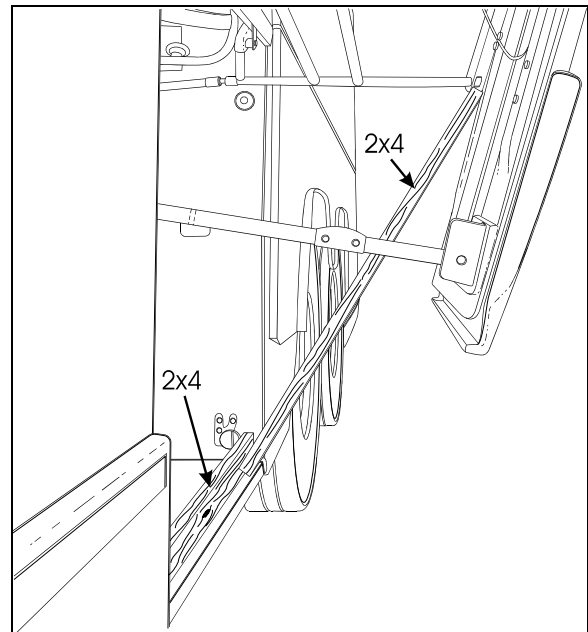

FIGURE 51: PANTOGRAPH ADJUSTMENT
3. Install another piece of 2x4 between the first piece and the bottom of the pivot of the lowest (or shortest) pantograph arm, (Fig. 51).